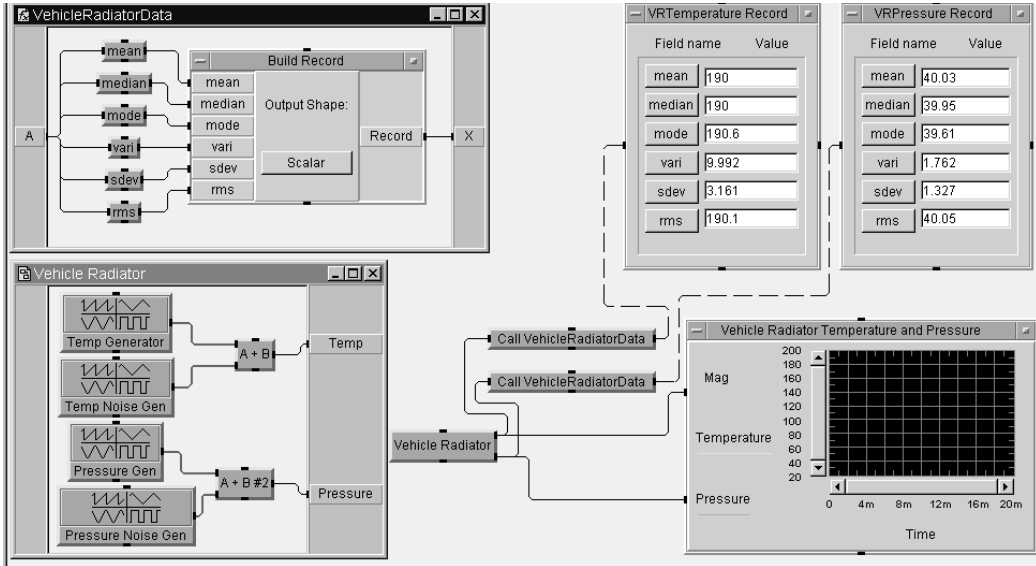

Figure 11.10. The completed Lab 11-4 program
- Connect and place the two UserFunction icons as shown in Figure 11.10.